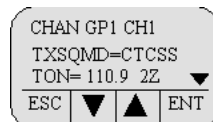

Figure 9
13. Scroll down and select "TX SQMD" and press the "ENTER" key to program the TX Squelch Mode. *(See Figure 9)*